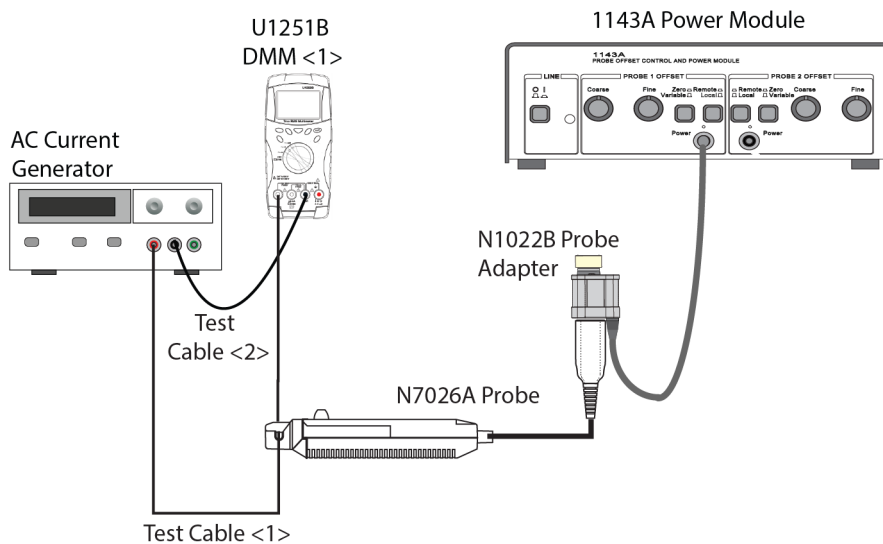

Figure 11 Setting up AC Current Generator
- 8 Connect the test setup as shown in **Figure 11** as per the following substeps.